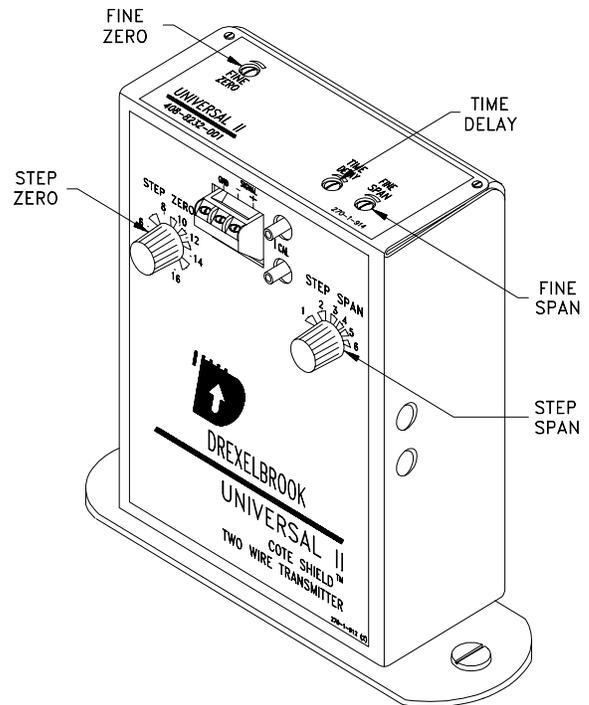

Figure 3-7
- 1) With fail-safe link in "DIR" position, (factory pre-set unless unit is ordered high level, see Section 3.1.3), set Fine Zero and Fine Span to extreme counterclockwise position. See Figure 3-7.
- 2) Set Fine Span and Fine Zero controls to extreme counterclockwise position. See Figure 3-7.
- 2) Set Fine Span and Fine Zero controls to extreme counterclockwise position. Do not force. See Figure 3-7.
- 1) Set fail-safe link to "DIR" position (see Section 3.1.3) and set Fine Span to extreme counterclockwise position. Do not force. See Figure 3-7.
- 1) Set the fail-safe link to the "REV" position (see Section 3.1.3) and set the Fine Span control to the extreme counterclockwise position. See Figure 3-7.
2) Set the Step Span control to Position #1 and Fine Span in the full counterclockwise position. See Figure 3-7.
2) Set the Step Span control to Position #1, and the Fine Span in the full counter clockwise position. See Figure 3-7.